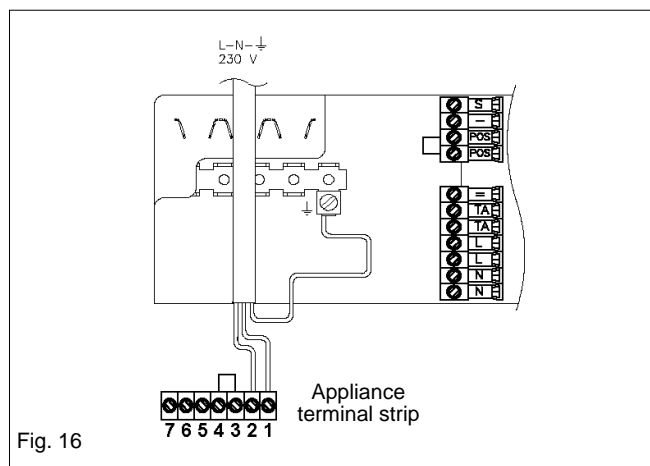

Fig. 16
4.7.3 CONNECTING THE MAINS (230V) INPUT (see fig. 16)
Connect the supply cable wires (live & neutral) to their corresponding terminals on the appliance terminal block. Connect the EARTH wire to the EARTH block (see fig. 16) ensuring that it's left slightly longer than the others, this will prevent strain on the earth wire should the cable become taut.